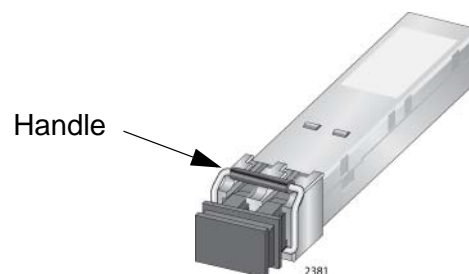

Figure 78. Handle on SFP Transceiver
3. To install the transceiver in an SFP slot on the top row of the line card, orient the transceiver with the handle on top, as shown in Figure 78. To install it into a slot on the bottom row of the line card, orient it with the handle on the bottom.